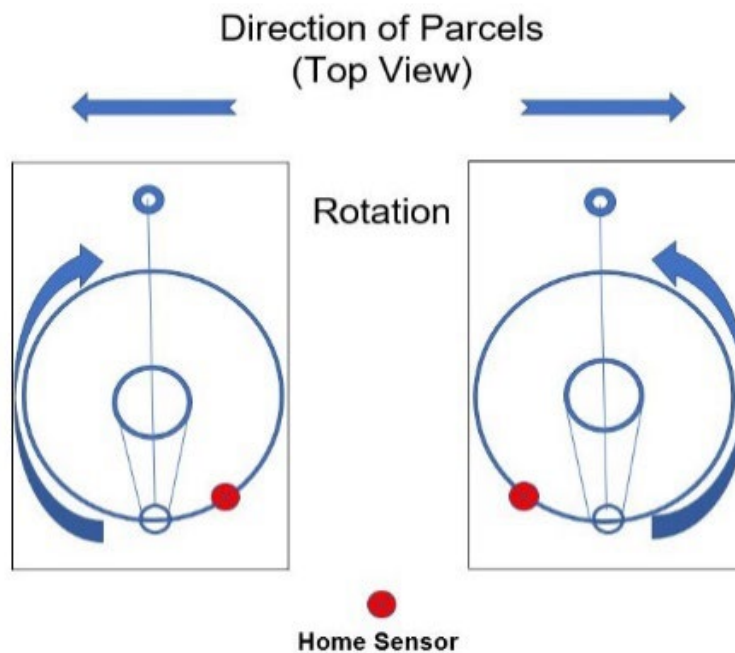

Figure 14. Direction of Rotation
- a. Position the Crank Arm at approximately 15 degrees before the home position (Figure 14).